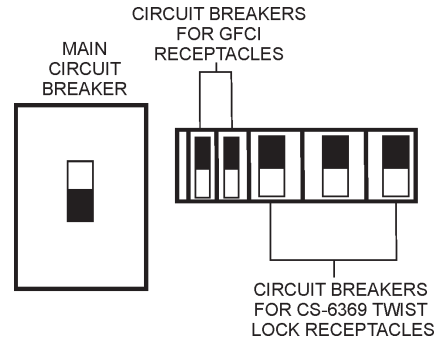

Figure 42. Main, Aux. and GFCI Circuit Breakers (OFF)
1. Place the *main*, *G.F.C.I.* and *aux.* circuit breakers (Figure 42) in the “OFF” position prior to starting the engine.